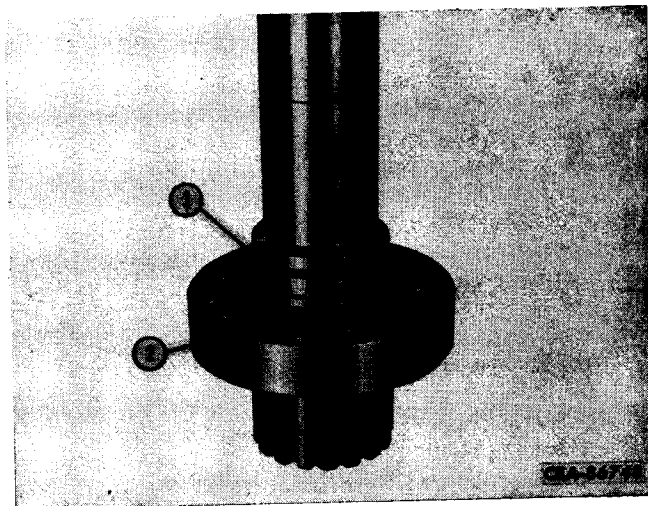

Figure 3-38
Remove hook-type seal ring (1, Fig. 3-38) and snap ring (2) from output shaft.